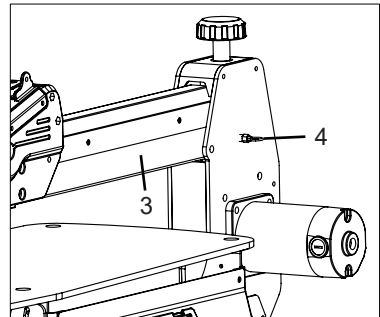

FIGURE 7
3. Gently lift the upper arm (Fig. 7, 3) of the saw.
5. Pull the ring pin (Fig. 7, 4) outward, lower the upper arm. This will lock the upper arm in place. Gently press on the upper arm to make sure it is locked in place.